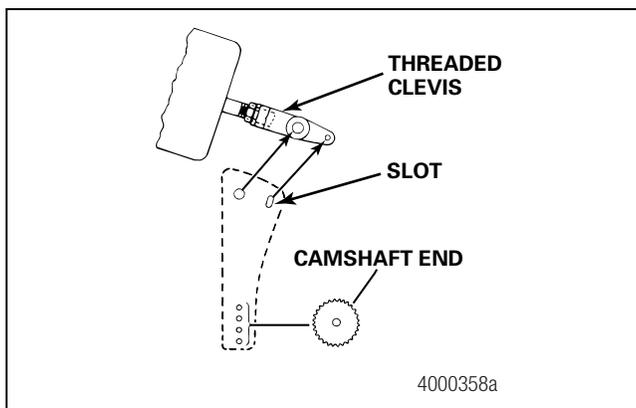

Figure 7.7
- **If the small clevis hole doesn't align within the slot:** Adjust the clevis until you can see the small clevis pin hole within the slot. Figure 7.7.